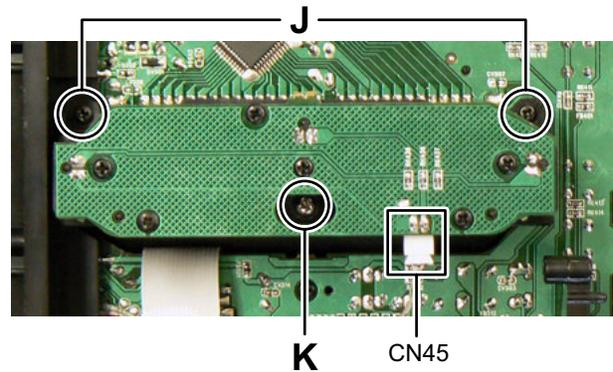

Fig.13
3.1.8 Removing the LED board (See Fig.13)